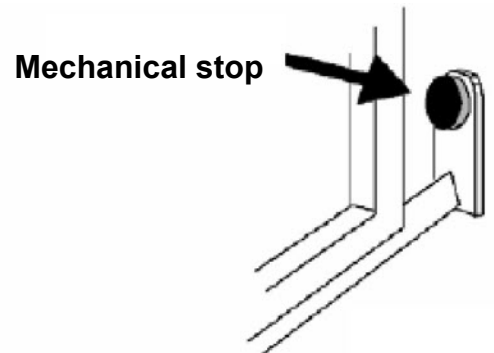
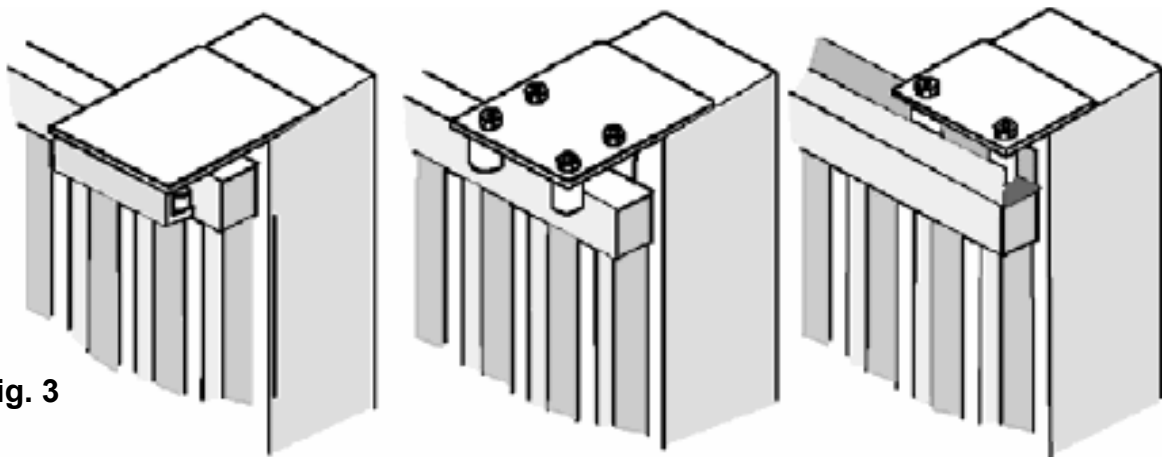

Fig. 2
Fig. 3
- Also check that the runner on the ground (**Fig. 1**) is not deformed, is perfectly level and that the mechanical stop is present on opening (**Fig. 2**) in order to **prevent** the gate from going beyond the upper runners (**Fig. 3**)
- Check the upper runner (**see Fig. 3**) is firm and the gate slides freely.
Remove the cop cover, unscrew the screws **A** and remove the cover **B** and route the cables into the slot of the motor. (**Fig.2**).
Fasten the rack to the gate firmly, leaving a distance of between 2 and 3 mm from the motor pinion (**Fig.3**).